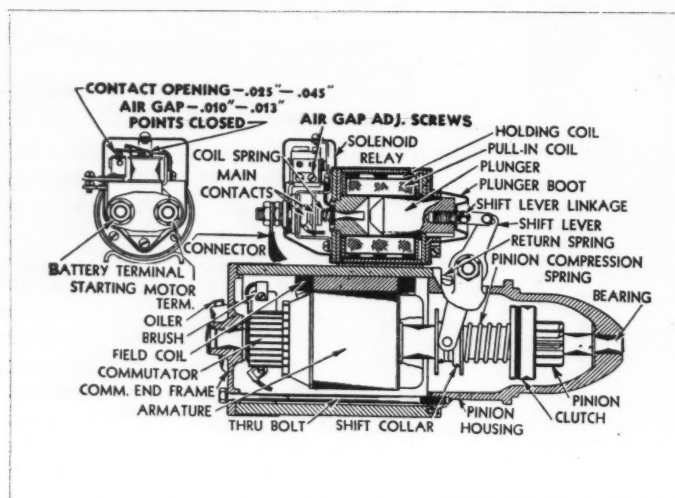

Fig. 1. Starting Motor—Series 40
**T**HE Stewart-Warner Windshield Wiper, Series 645, is electrically operated. When the switch knob (See Fig. 1) is turned on, the electric motor operates the two windshield wiper blades, each of which is fastened to the motor gear by means of individual transmission housings and connecting motor links. When the switch knob is turned off the motor continues to
This is certainly true on the new Delco-Remy single core current and voltage regulator (Figure 1) used with the 34-amp. Delco-Remy shunt generator, because these units are precision built and they must be accurately set and adjusted, and the "Maybe this is the trouble" mechanic isn't going to get very far with them. We've already discussed, in the March issue, *how* the new regulator is checked and adjusted, and *how* to clean regulator points. Now, let's talk about *when* and *whether or not* to do this adjusting and point cleaning.